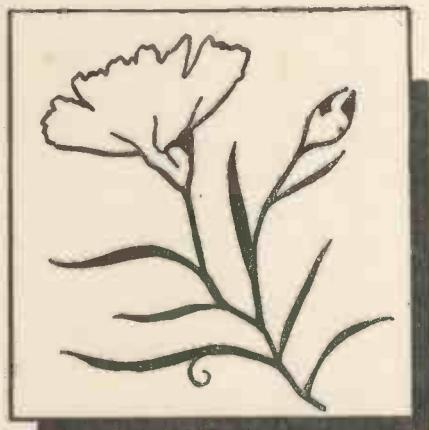

Fig. 1.—Paint with a Solution of Saltpetre on a piece of Paper, a design employing one continuous line.
**Magic Paper.**—The experimenter, having grasped the principle underlying combustion of nitre paper will doubtless devise a few entertaining tricks with it. With a paint brush and a solution of saltpetre, paint on a piece of thin paper some design employing one continuous line (see Fig. 1). Make a pencil mark at the commencement of the design, and, when the paper is dry, apply a red-hot needle to the pencil mark. The pattern will smoulder itself into visibility.